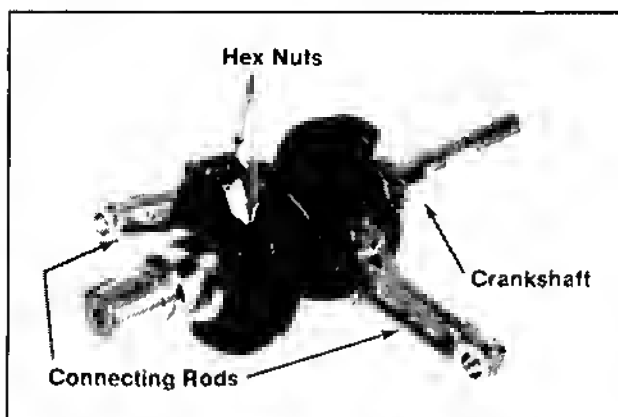

Figure 9-35. Removing Connecting Rods.
2. Remove the hex. nuts, connecting rod caps, and connecting rods from crankshaft. Refer to Figure 9-35.